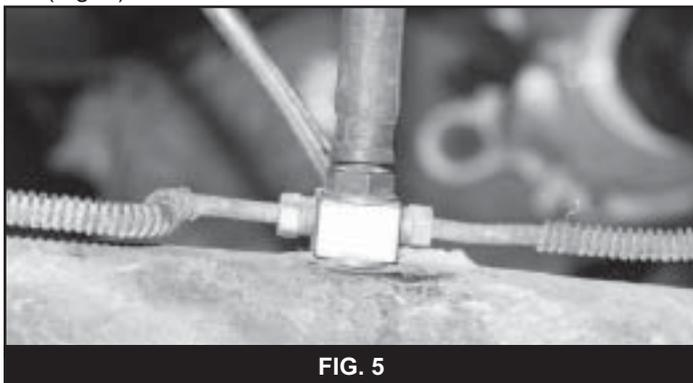

FIG. 5
7. Attach the axle brake lines to the new brake line junction block. Attach the junction block to the axle with the OE breather bolt. Torque bolt to 25 ft-lbs. Install breather hose. (Fig. 5)